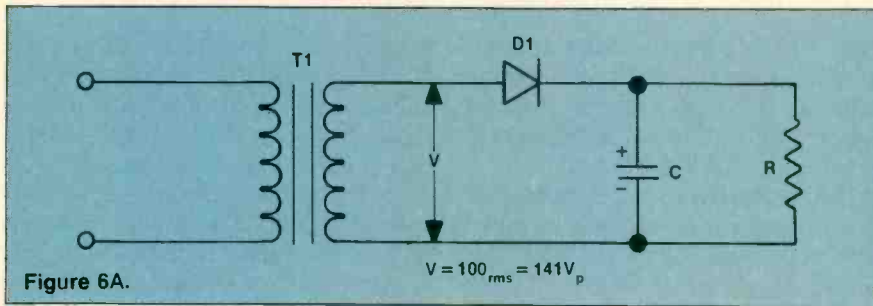
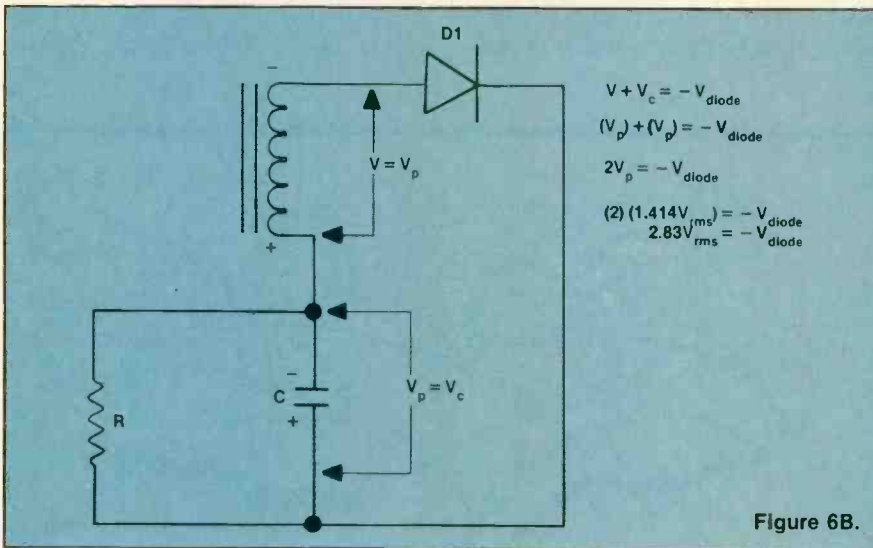

Figure 6A.
Figure 6B.
The pulsating dc waveform is almost as useless for electronic circuits as the ac input. However, we can filter the pulsating dc output to form nearly pure dc. Although the subject of filtering is beyond the scope of this article, we must consider at least the simplest form of power supply filter in order to correctly select a rectifier for any given application. Figure 6A shows a simple power supply with a brute-force filter capacitor (C) shunting the load to filter the pulsating dc into nearly pure dc. This capacitor will charge to a potential equal to the peak voltage, which is 1.414 times the applied rms voltage.
Most rectifiers are used in filtered circuits (Figure 6A), and that makes the problem different. Figure 6B shows the simple capacitor filtered circuit redrawn to illustrate better the circuit action. Keep in mind that capacitor C is charged to the peak voltage with the polarity shown. The voltage across the transformer secondary (V) is in series with the capacitor voltage. When voltage V is positive, the transformer voltage and capacitor voltage cancel out, making the diode reverse voltage nearly zero. But when the transformer voltage (V) is negative, the two negative voltages (V and  $V_c$ ) add up to twice the peak voltage, or approximately  $2.83 \times \text{rms}$  voltage. Therefore, the absolute minimum value of PIV rating for the diode is 2.83 times the applied rms. If you prefer a 20% safety margin (a good idea), then make the diode PIV rating  $3.4 \times \text{rms}$  (or more).